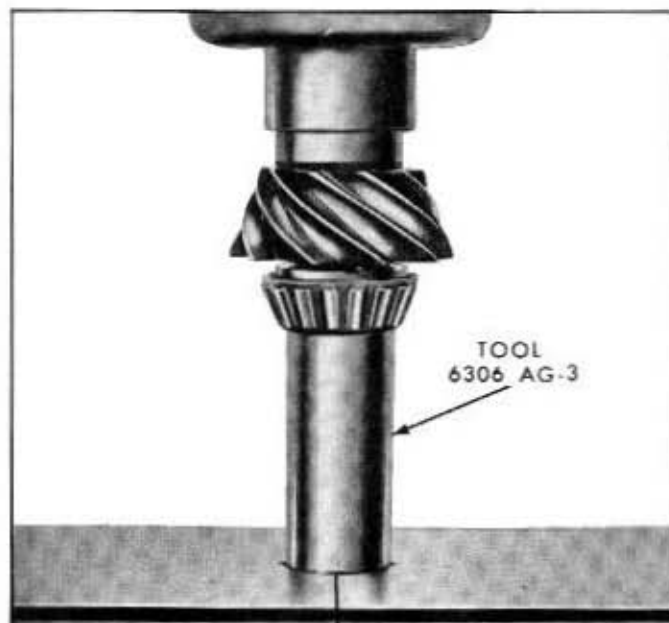

Fig. 4-27—Pinion Rear Bearing Cone Installation—(60C-5226)
1. Place the shim and pinion rear bearing cone on the pinion shaft. Press the bearing and shim firmly against the pinion shaft shoulder with Tool 6306-AG-3 as shown in figure 4-27.